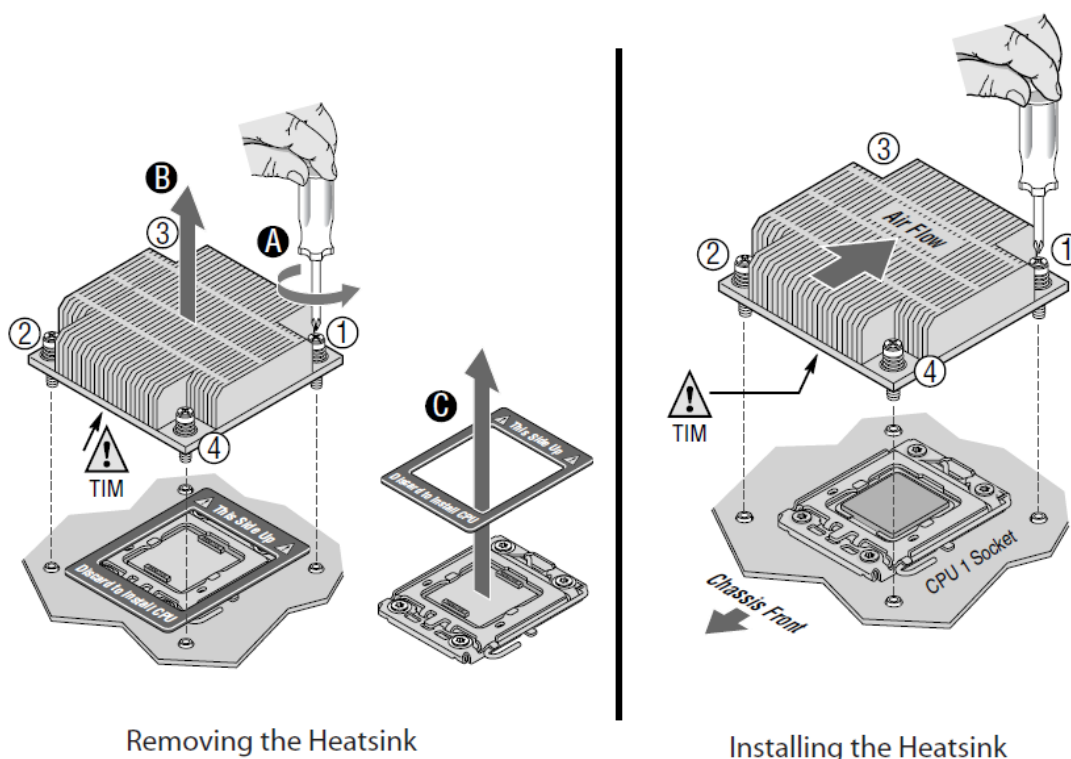

Figure 14. Installing/Removing Heatsink**3.3.3.3 Removing the Processor Heatsink**
2. Orient the heatsink over the processor as shown in Figure 14. The heatsink fins must be positioned as shown to provide correct airflow through the system.